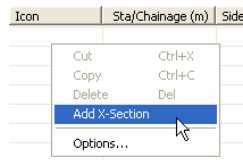

Figure 9-61. Adding X-Section Using Right Panel of the Road tab
- In the right panel, right-click and click **Add X-Section** (Figure 9-61).